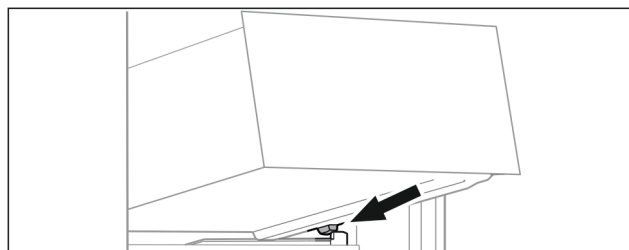

Fig. 69
- ▶ Place drawer at an angle behind the stoppers on the moulded rib. (see Fig. 69)